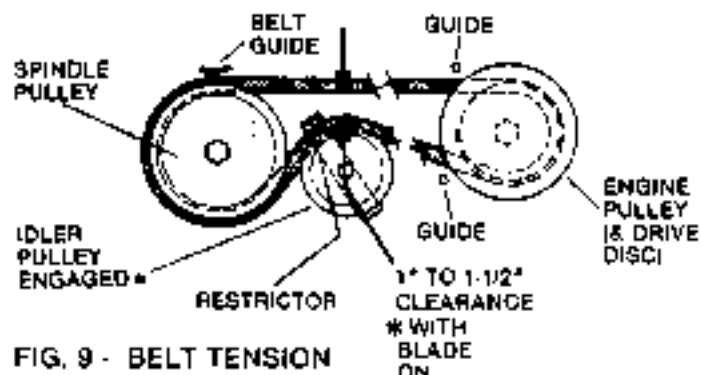

FIG. 9 - BELT TENSION
With the mower deck in #5 height position and the blade in the ON position, check the distance between the inside surfaces of the belt as shown in FIG. 9. The belt tension is adjusted by changing the "distance" between the front axle and the rear case. Loosen nut (Y) at the main tube clamp (X) beneath the main channel (under seat) and pull the front assembly FORWARD to increase belt tension until the correct amount is achieved. Then retighten nut (Y).
If belt becomes frayed, cracked, or worn, replace as follows: Remove the BELT COVER, then cut and remove the old belt. To install new belt, close fuel cap (10-C) valve. Stand mower on REAR BUMPER (14-C), shift into NEUTRAL position, work belt between discs, shift into #5 speed and push belt over edge of engine drive disc. Work into the groove of the drive disc, then connect other end to pulleys on mower deck as follows: Loosen or remove the Idler pulley, loop the belt around spindle pulley as shown in FIG. 9 and work belt between restrictor and idler pulley. Make sure locking tab on restrictor is engaged in idler arm before securing idler arm nut and bolt. Check and adjust belt tension as needed before reinstalling BELT COVER.